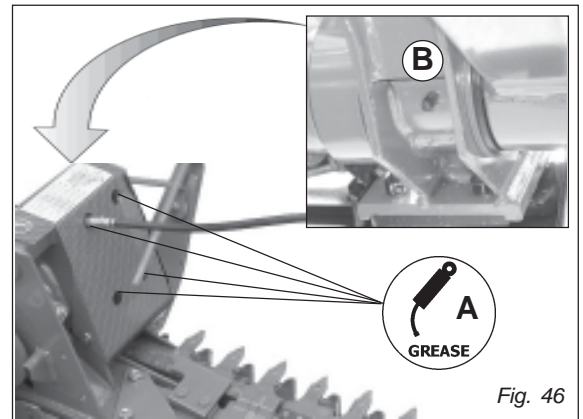

Fig. 46
- Grease points (A and B, Fig. 46).
- Grease point (A and B, Fig. 46).